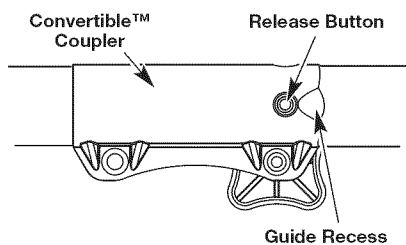

Fig. 5
**NOTE:** Aligning the release button with the guide recess will help installation (Fig. 5).
- Press and hold the release button (Fig. 5).